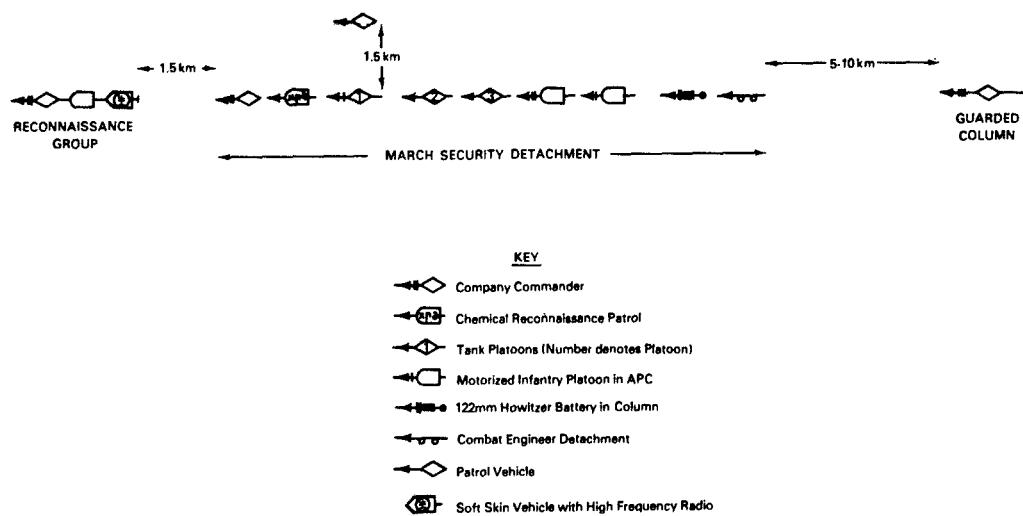

Figure 10. Composition and Deployment of Lead March Security Detachment.
6. METHOD OF OPERATION. The LMSD normally operates in company column and expects to overcome light opposition while remaining in that formation. The LMSD is employed as shown in Figure 10. Note that the company commander leads the tank column. The distance between vehicles and subunits is 25 - 50 meters. Individual tanks or APCs are usually detailed to give the LMSD front and flank protection. During the advance, only the company commander makes radio transmissions, giving orders by codewords or code numbers. Control of the column is exercised by flag signals by day and signal flares by night. Air attack is countered by increasing speed and march intervals. Antiaircraft fire is delivered on order of the company commander. During short halts the vehicles close to within 10 meters of each other. At long halts the company deploys into a perimeter defense. LMSD duty rotates within the companies of the battalion.